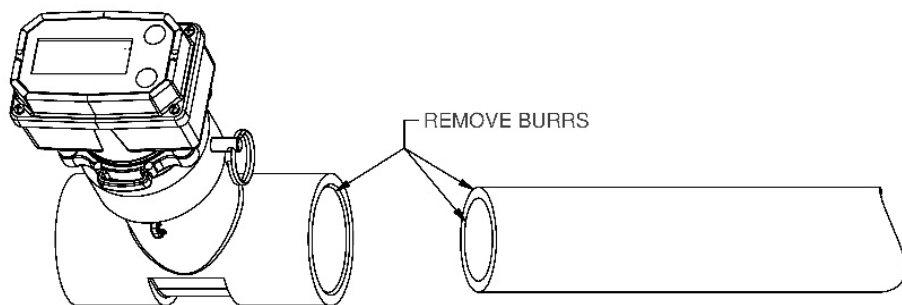

Figure 4
1. Remove all burrs from the O.D. and I.D. edges of the pipe ends, and the I.D. edges of the Tee sockets (see Figure 4).